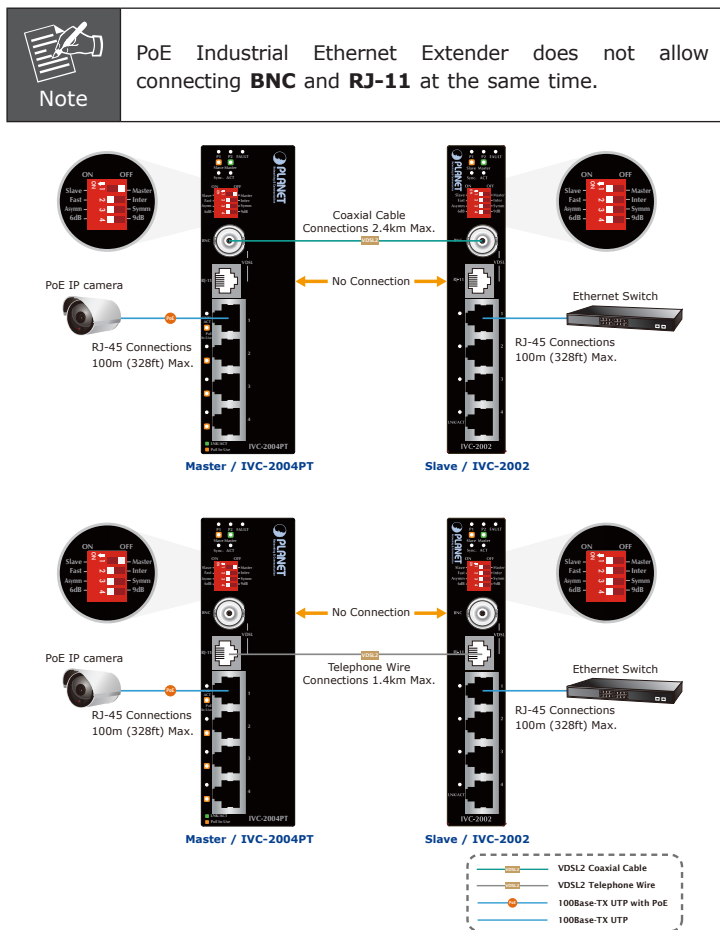

Figure 3-1: Industrial Ethernet Extender BNC and RJ-11 Connection Chart
PLANET PoE Industrial Ethernet Extender has a DIP switch which can adjust to be Master or Slave mode. Connection of two PLANET PoE Industrial Ethernet Extenders, one must be Master (CO) mode and the other one must be Slave (CPE) mode. Please refer to the following Figure 3-1 chart.